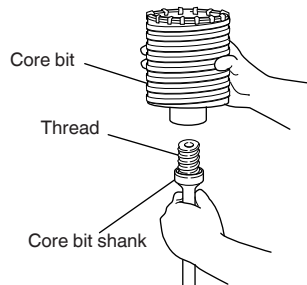

Fig. 19
- (1) Mount the core bit to the core bit shank (**Fig. 19**). Lubricate the thread of the core bit shank to facilitate disassembly.